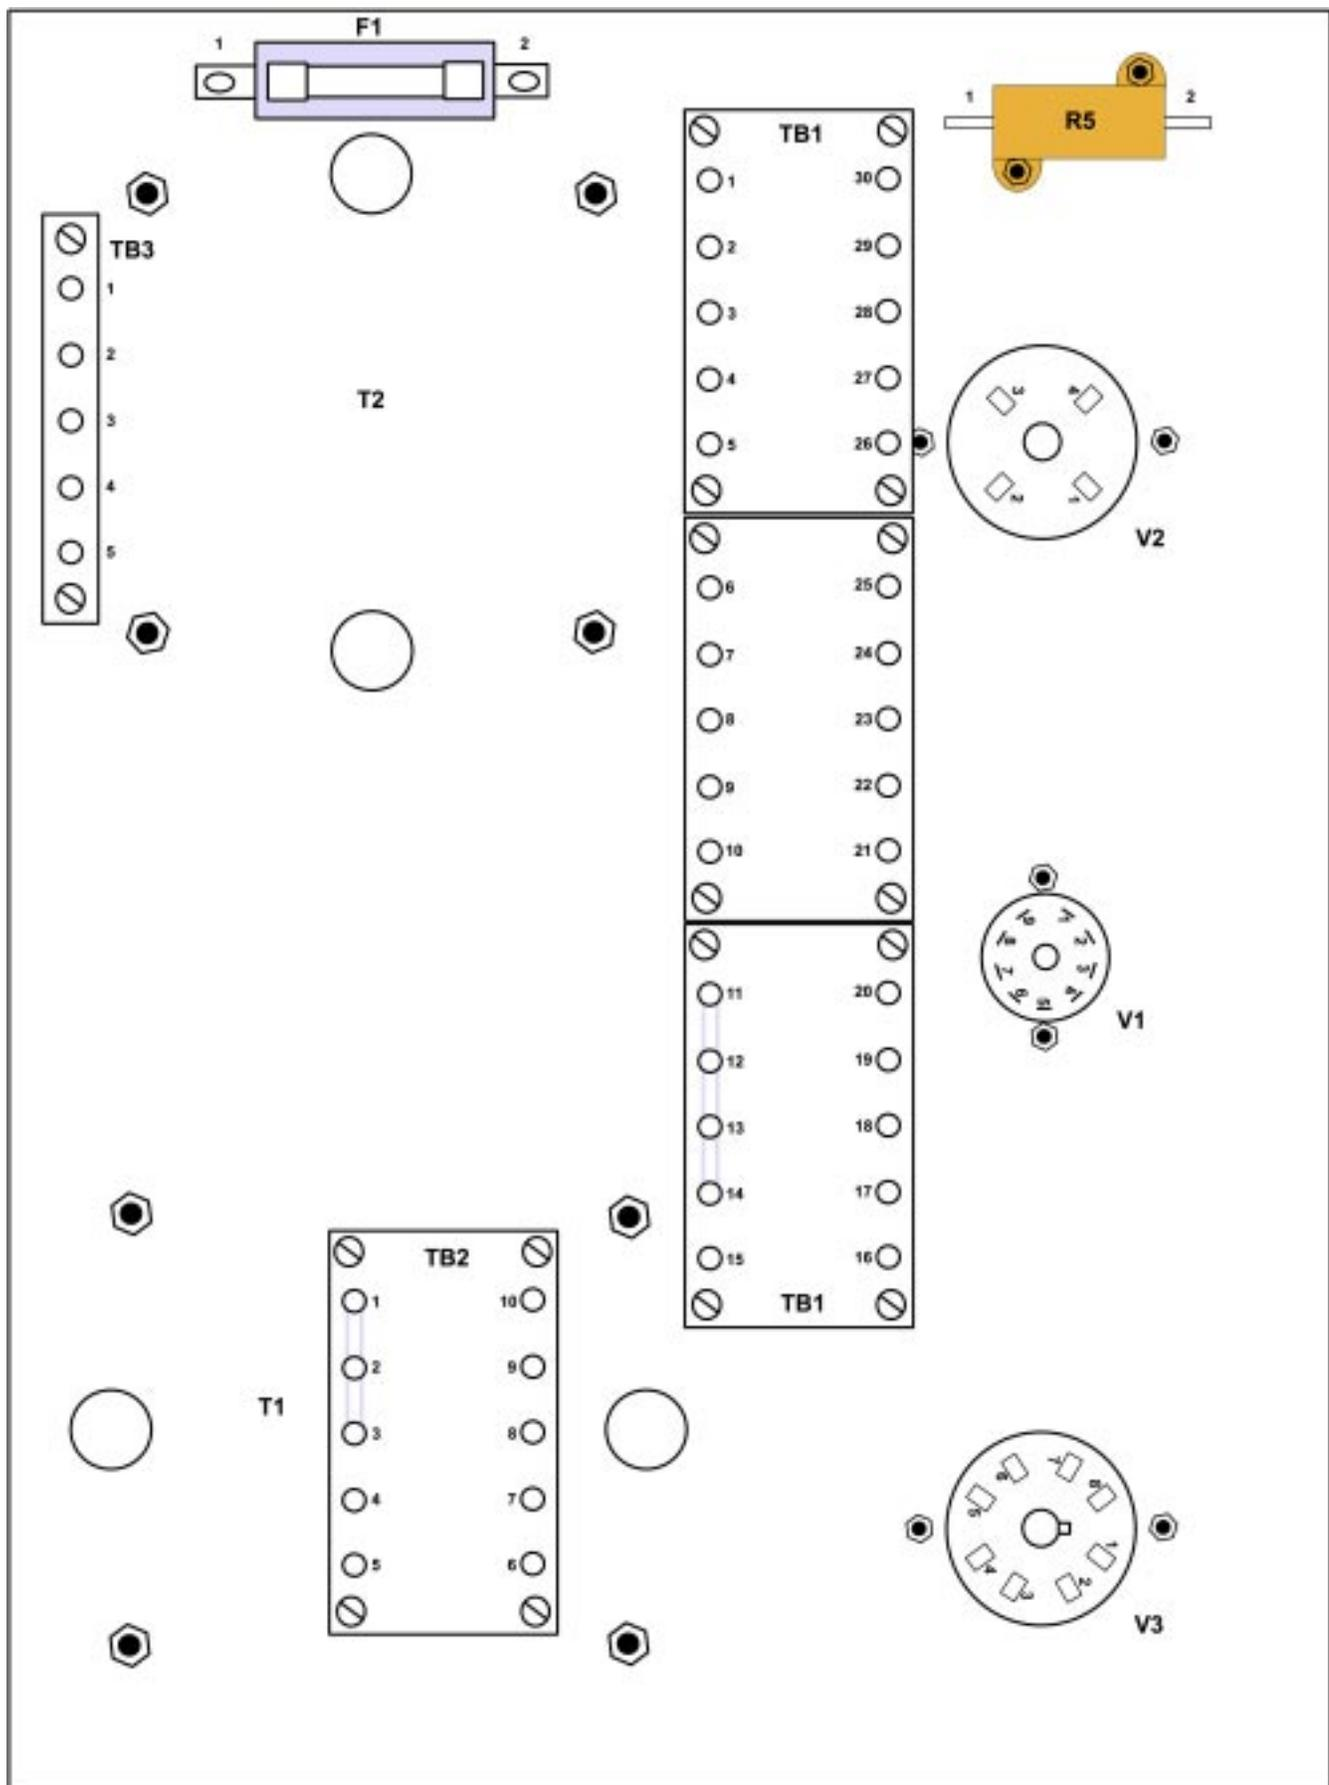

Figure 1
Take a few minutes to familiarize yourself with the layouts of the chassis plates in figures 1 and 2. The two monoblocks are mirror images of each other. Please note that while terminal board “numbers” of TB1 and TB2 are “mirrored” the tube socket pins are not. The wiring shown on the figures appears somewhat messy. This is intentional as we have spread the wires out to make them more visible for your assembly process. As you assemble the wires and connections be a little bit neater with their layout. Route them close to the aluminum chassis plate and underneath the terminal boards and components. Do not make big airborne loops out of the wires as they will act as antennas and pickup noise, radio stations, etc. And be very careful with that soldering iron and don't burn the insulation off of any adjacent components. **Please note: If you have purchased the silver hookup wire upgrade all we supply you are the colors red and white. Use the silver hookup wire in place of the red/black twisted pair input cable and use the silver wire whenever the manual calls out the 20ga solid core wire in yellow, black and white. Use whatever color you prefer.**
1) To begin, remove the bottom black panels. Mount the tube sockets using the supplied hardware and in the direction shown in figures 1 and 2. The chassis plates are mirror images of each other and therefore as you continue through the assembly steps note that some components will have to mount differently on the opposite plate. If you are installing the Ultimate Upgrade package note that the teflon tube socket pins are not marked with numbers. Orient and install sockets V1, V2 and V3 according to the key in the center of the socket. Note that tube socket V2 is not “keyed” but has two small diameter pins and two large diameter pins. The small diameter pins are 2 and 3. The large pins are 1 and 4. Orient and mount the socket according to the drawing.
Install the terminal boards TB1, TB2 and TB3 to the bottom side of the chassis as shown in Figures 1 and 2 using the supplied hardware. The black button head screws are used on the outside of the chassis and the silver screws on the inside. The lugs of the terminal boards TB1, TB2 and TB3 have been numbered (refer to figures 1 and 2) to facilitate assembly. In subsequent steps a specific lug will be referenced by the terminal board number followed by the lug number. For example the instructions: “solder a black wire from TB2-1 to TB1-14”, refers to lug #1 of terminal board TB2 and lug #14 of terminal board TB1.